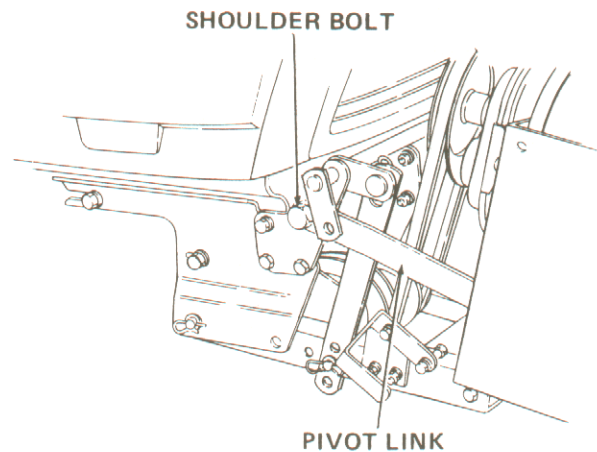

Figure 21
- b. Secure free end of each pivot link to undercarriage with shoulder bolt, lock washer and hex nut removed in step 2a. Refer to Figure 21.